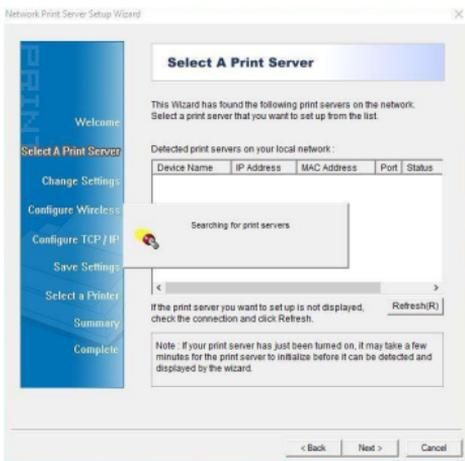
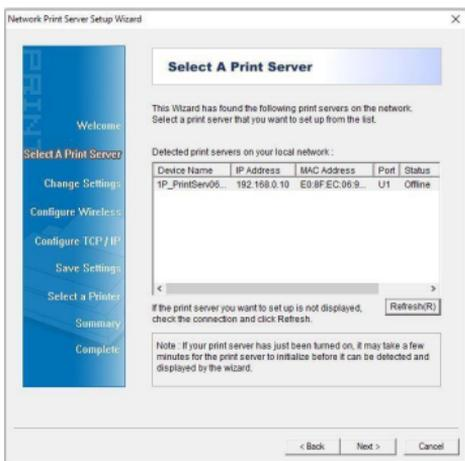

Figure 2
Figure 3
5. At the **Select a Print Server** screen, select **Next** to start searching for the **Print Server** (Figure 2). Select the desired **Print Server** then select **Next**. (Figure 3)